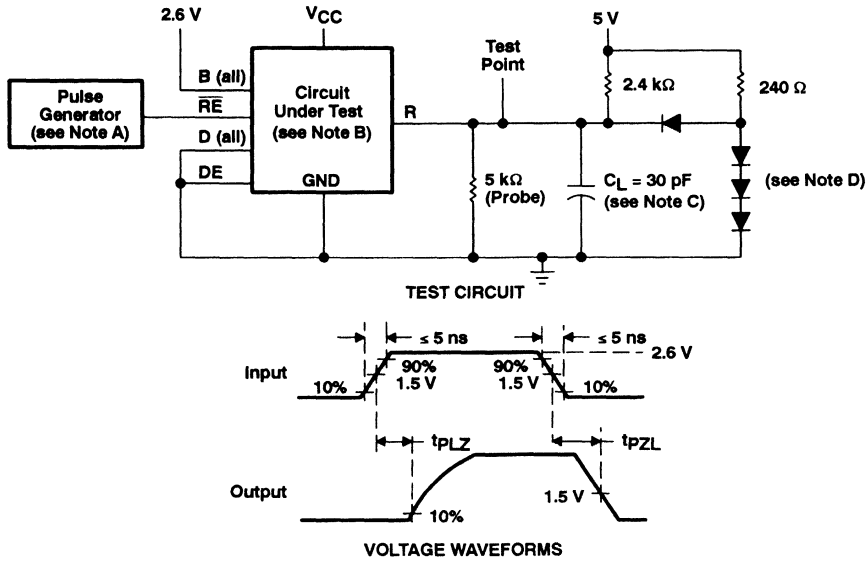

Figure 3. Receiver Test Circuit and Voltage Waveforms
- NOTES: A. The pulse generator in Figures 3 and 4 has the following characteristics: PRR \leq 5 MHz, duty cycle = 50%, $Z_O \approx$ 50 Ω .